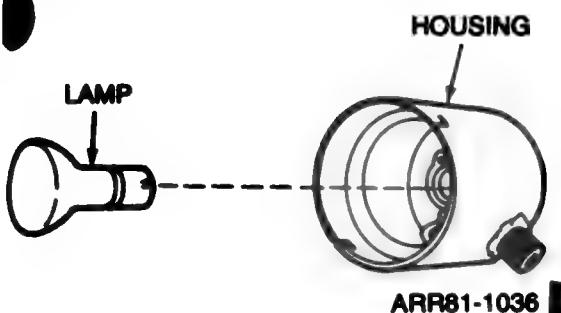

Figure 172.1. Collimator lamp and housing.
f. *Reference collimator M1.* Replace lamp in the lamp housing by releasing the bayonet mount and withdrawing the housing from the collimator (fig. 172.1). Remove and discard the old lamp. Insert new lamp and install housing in collimator.
Note. Two regulator assemblies are presently in use for purging and charging fire control materiel. The insert on figure 172.1 shows regulator 5580922 while the tank is shown with regulator 11729749.